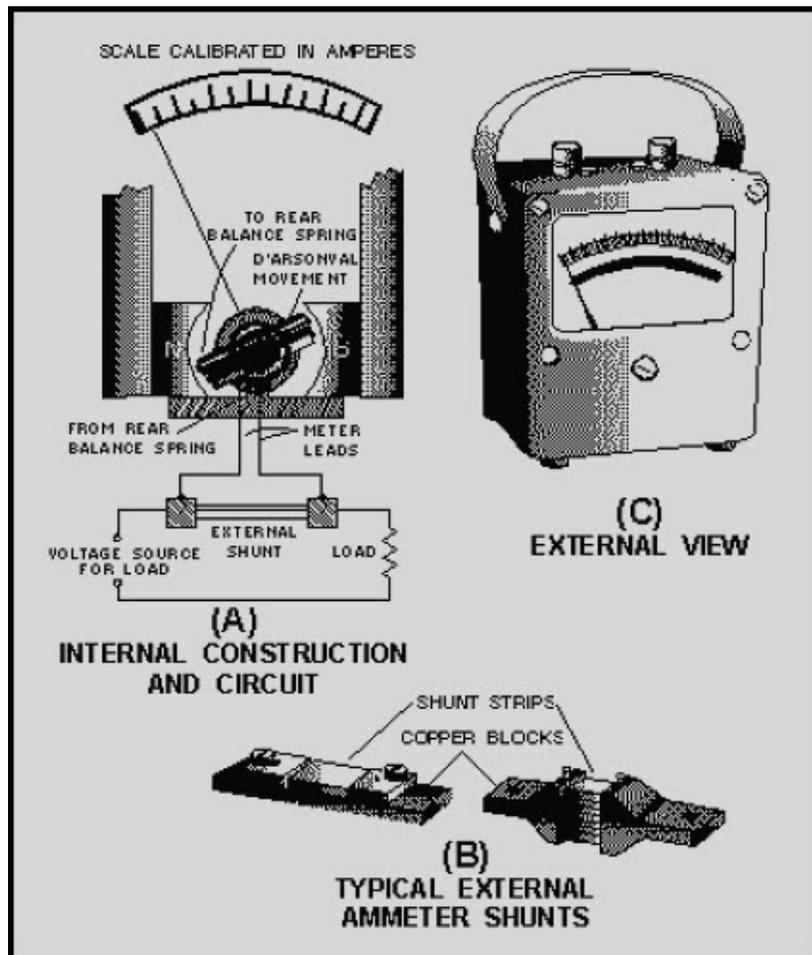

Figure 3-4 Dc ammeter using the D'Arsonval movement with external shunts
**EXTERNAL SHUNTS** - An external-shunt circuit is shown in figure 3-4, view A. Typical external shunts are shown in view B. View C shows a meter movement mounted within the case. The case provides protection against breakage, magnetic shielding in some cases, and portability.
**SHUNT CONSTRUCTION** - The shunt strips (view B of figure 3-4) are usually made of the alloy *Manganin*. Manganin has a temperature coefficient of almost zero. The zero-temperature coefficient property is desirable because of the heavy currents that often flow through shunts producing heat. A zero-temperature coefficient material is not affected by this heat; therefore, it remains stable in temperature. Most other materials increase their resistance as they are heated. If shunts were made of these materials, they would carry less current. More and more current would flow through the meter movement, and the chances of damage would increase. Using shunts constructed with zero-temperature coefficient materials eliminates this problem.